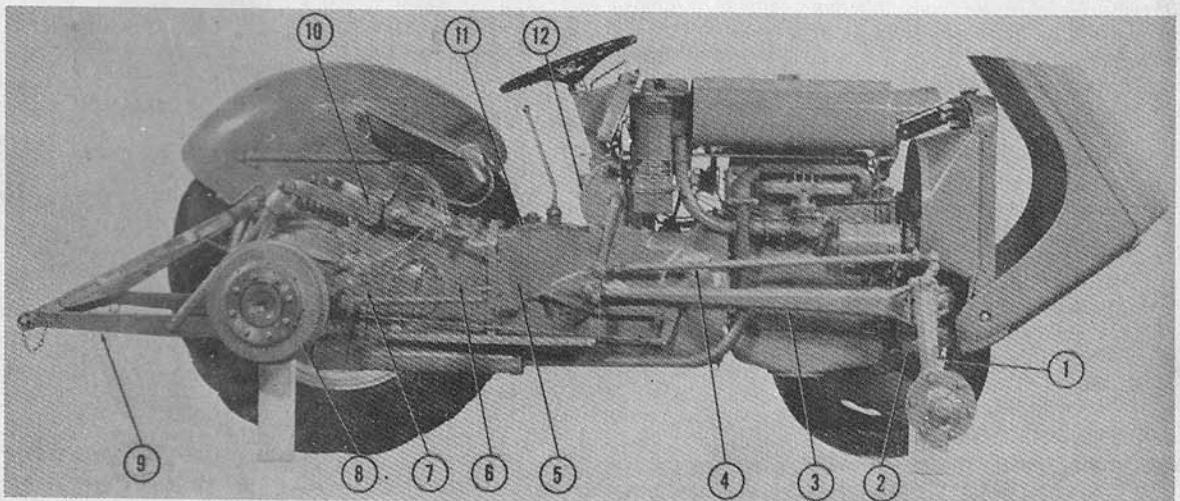

Fig. F3—Model TO20 tractor, right side view. TE20, and TO30 are similar.
1. Axle main member complete with wheels can be removed as a unit by disconnecting both radius rods (3—Fig. F3) from transmission case, and steering drag links (4) from spindle arms. Support the engine and remove hood (bonnet) and radiator. Remove front axle pivot pin retaining screw and remove front axle pivot pin by prying same forward and out of axle.